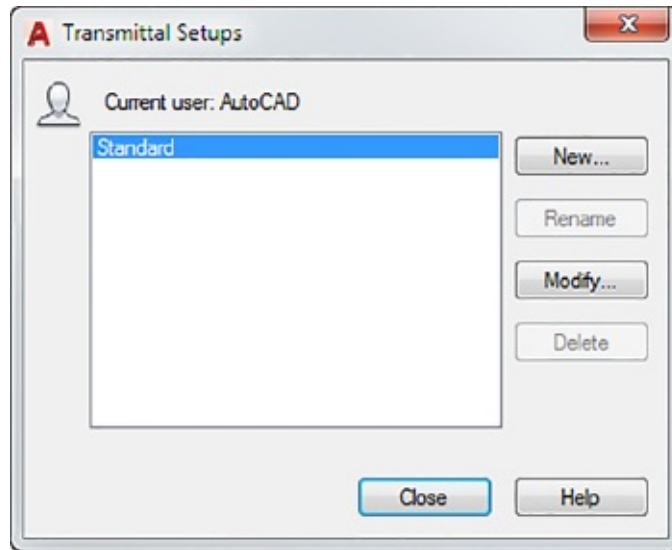

FIGURE 25.2 Choose whether to create from scratch or edit an existing transmittal.
4. In the Select A Transmittal Setup group, click the Transmittal Setups button to open the Transmittal Setups dialog box (see Figure 25.2). Here you can create a new transmittal or rename or modify an existing one.